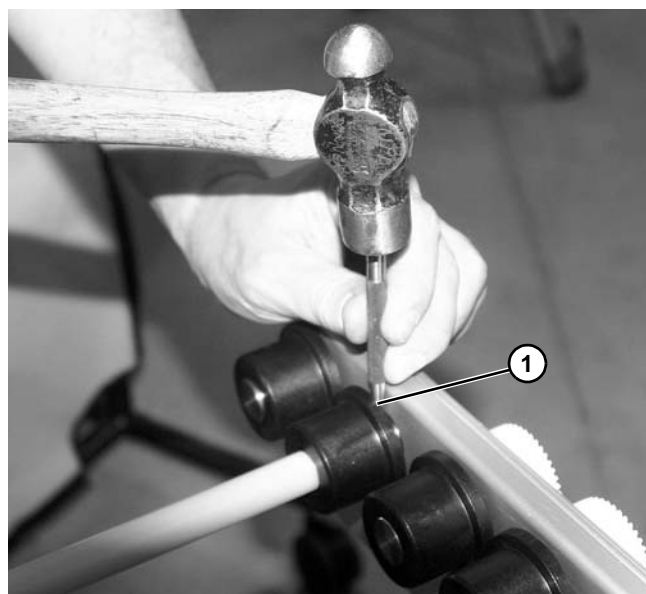

Figure 22
9. Using a hammer and pin punch, drive out pin (Figure 22, item 1) holding roller onto shaft.